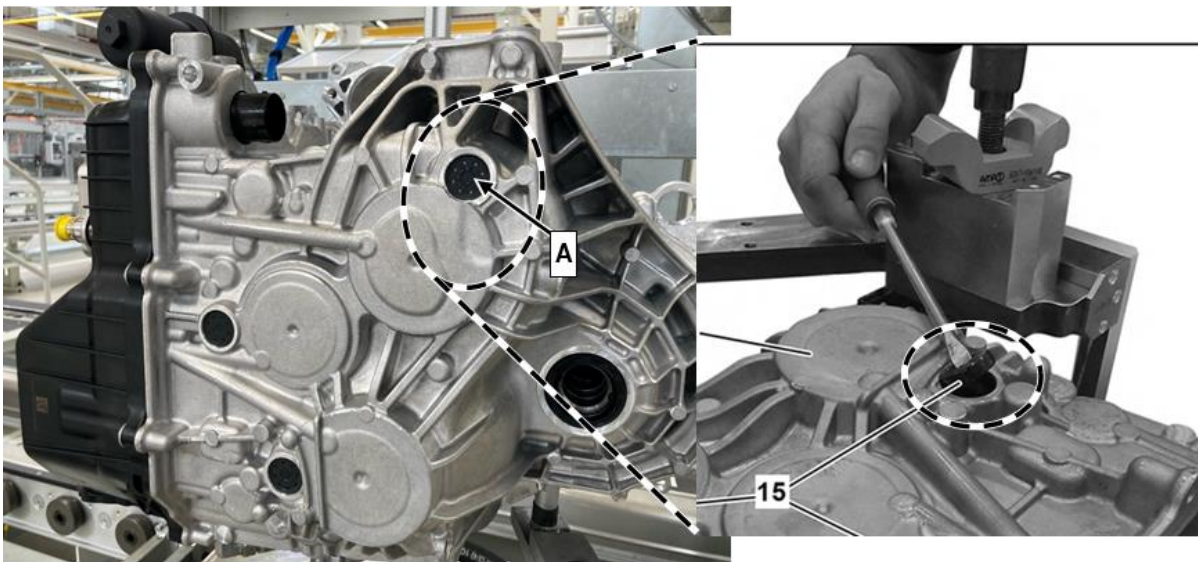

Figure 1
2. Remove bearing cap (A, Figure 1) from transmission using a suitable tool.